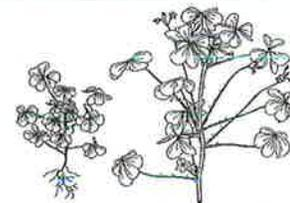

Figure 8-6. Woodsorrel leaves are up to 3/4 inch across and have three heart-shaped leaflets.
**Woodsorrel** (sometimes called oxalis) is most obvious during the cool season (Figure 8-6), but new seedlings also pop up during the summer. The small, bushy, yellow-green plant grows from a central taproot. The stems are slender and sometimes root at the nodes. It blooms from May to September. The 1/2 inch yellow flowers have five petals. One to four flowers appear at the end of each stem. The seed pods are about 1 inch tall and are on slender stalks. When dry, the pods break open suddenly if touched and throw the seed as far as 6 feet. Woodsorrel reproduces from stem pieces as well as from seed.